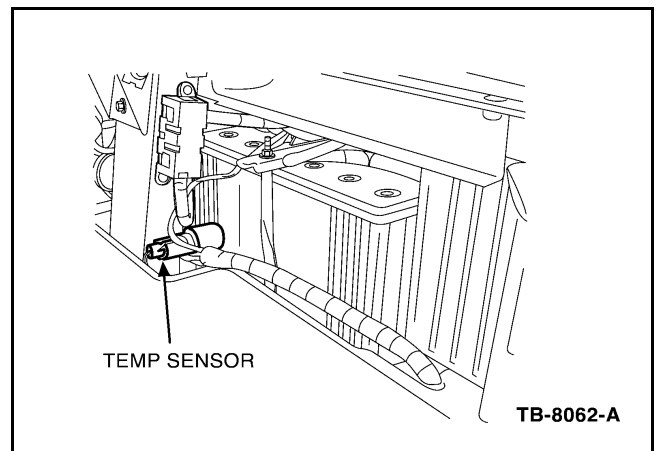

Figure 21 - Article 04-24-9
1. Remove the existing vehicle battery temperature sensor, wire, and connector and discard (Figure 21).